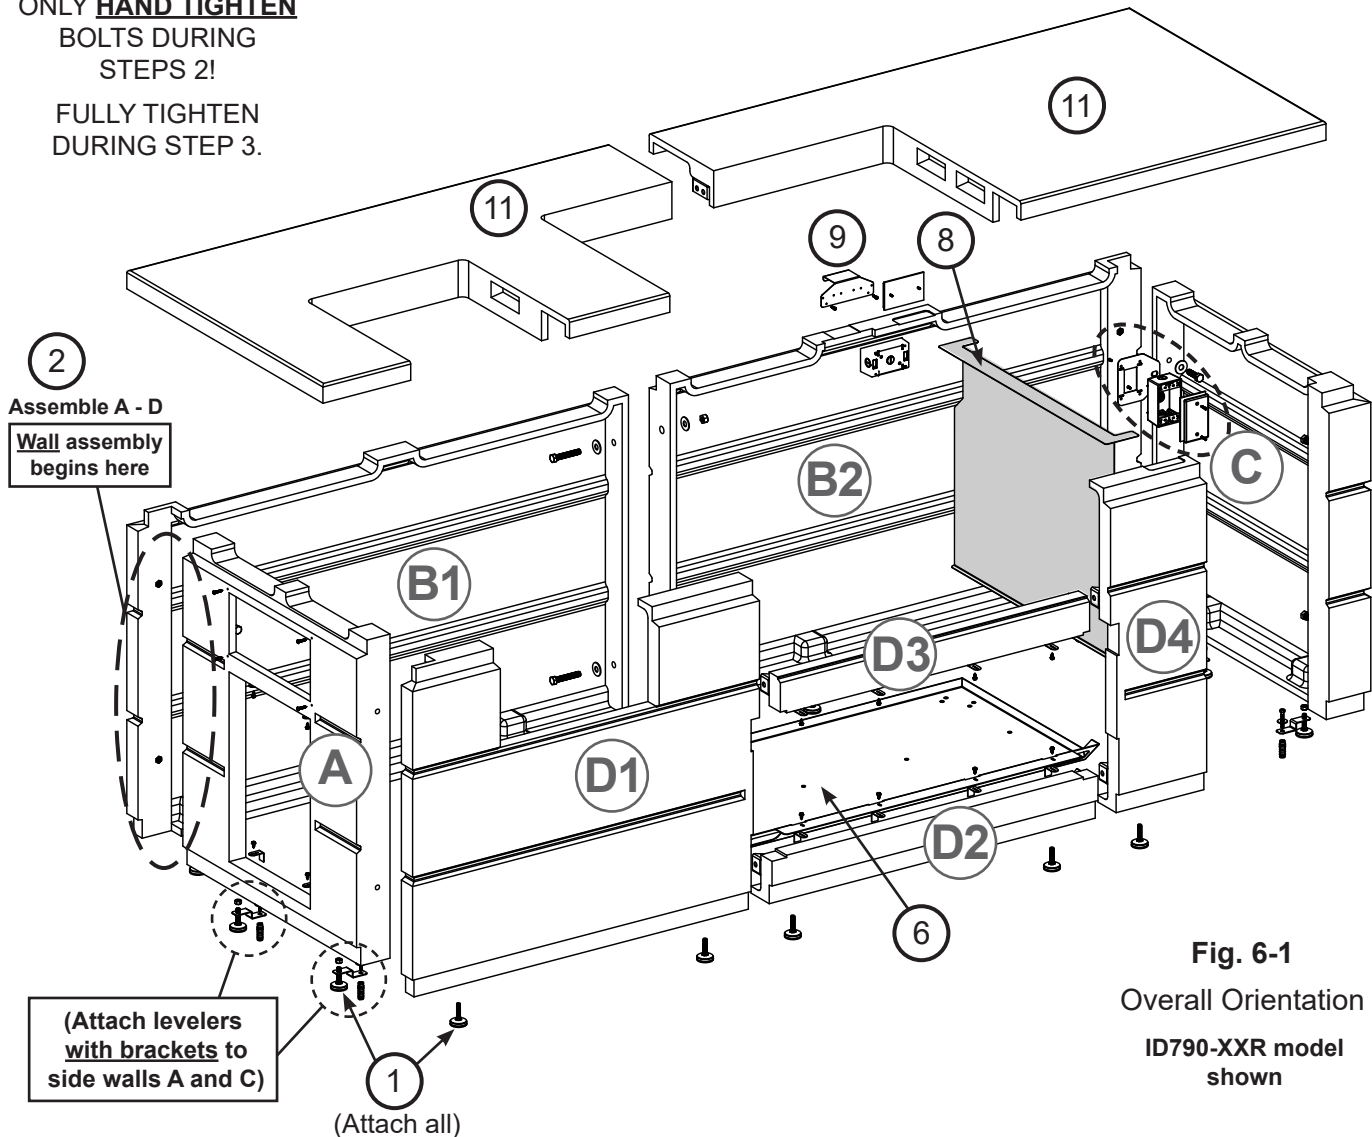

Fig. 6-1
- Fig. 6-1 provides an overall orientation and bolt assembly detail for the island with refrigerator.